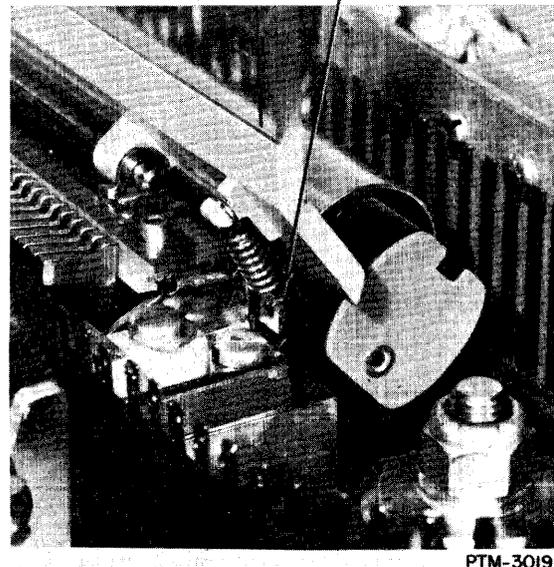

Figure 5-18. Paper Shield Spring Clip.
3. Reinstall by reversing this procedure. Be sure to hook the spring as shown in Figure 5-18.